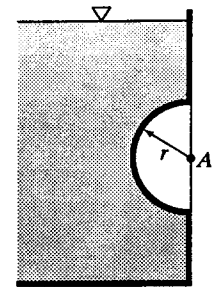

Figure X3.8.6
3.8.6 The hemispherical body shown in Fig. X3.8.6 ($r = 2$ ft) projects into a tank. Find the horizontal and vertical forces acting on the hemispherical projection for the following cases: (a) the tank is full of water with the free surface 5 ft above A; (b) the tank contains CCl_4 ($s = 1.59$) to the level of A overlain with water having its free surface 5 ft above A; (c) the tank is closed and contains only gas at a pressure of 6 psi; (d) the tank is closed and contains water to the level of A overlain with gas at a pressure of 2 psi. Assume the gas weighs 0.075 lb/ft^3 .